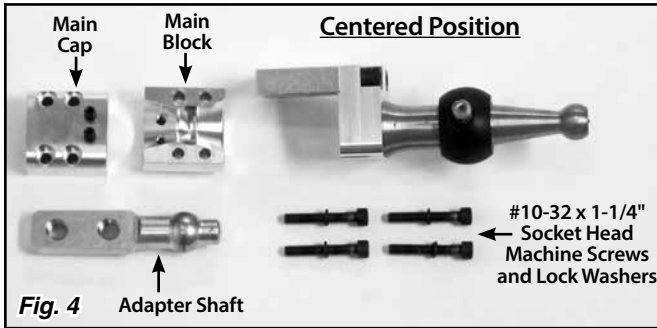

Fig. 4
Step 2: If you are using the AxiShift Pro in the centered position, remove the four #10-32 x 1-1/4" socket head machine screws and lock washers from the main cap. Remove the main cap, the adapter shaft, and the main block from the back plate. **Fig. 4**